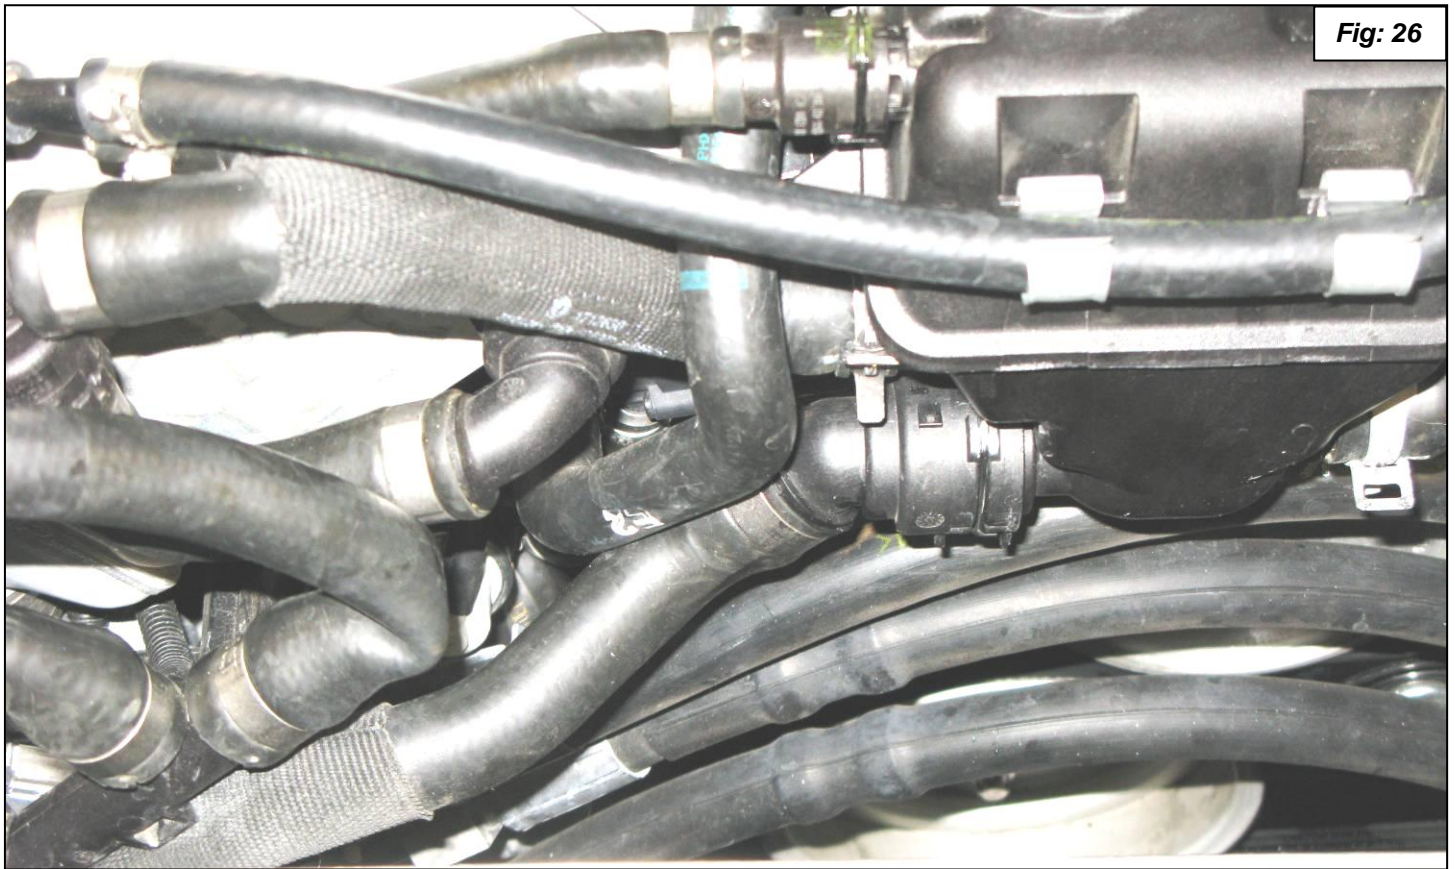

Fig: 26
23. Connect the hose from the pump to the bottom of the reservoir making sure it is still in the clamp that will hold it to the fan. See figure 26.